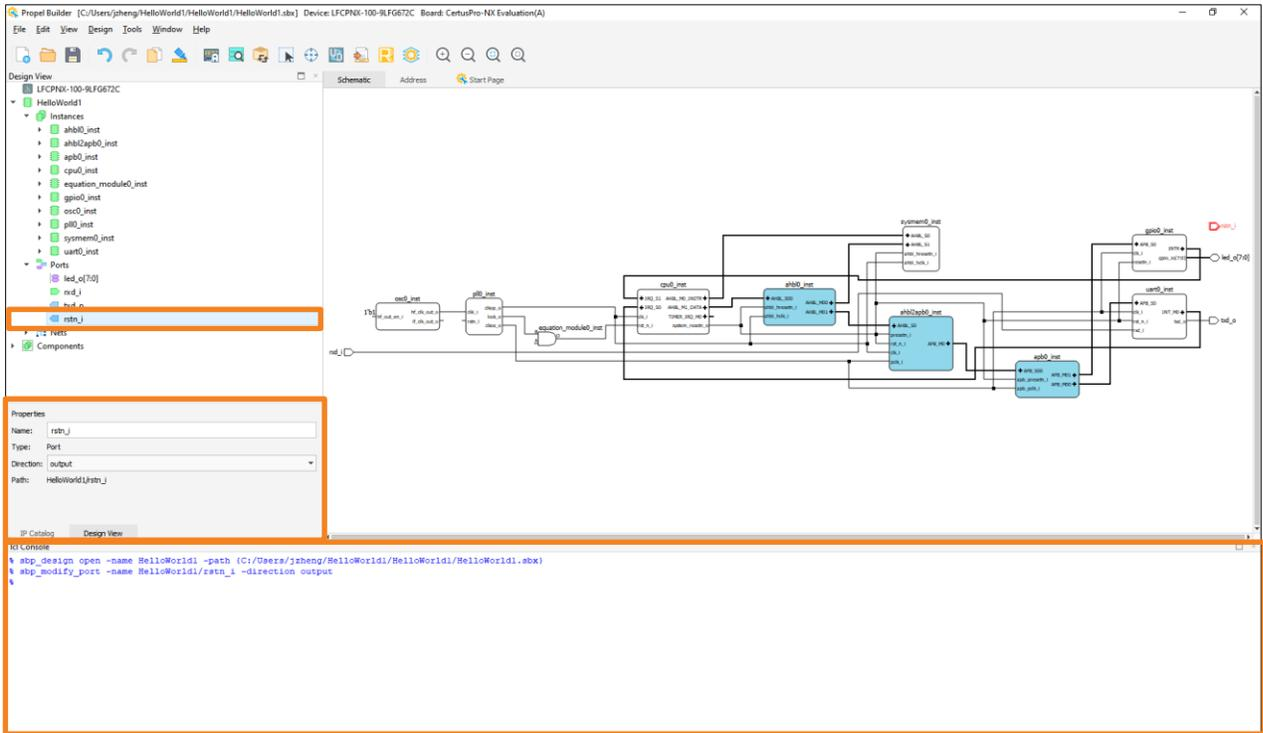

Figure 2.94. Port Direction
- b. Port direction can be modified. You can use the drop-down menu to choose the desired port direction. TCL command is shown in **Design View** (Figure 2.94).
- c. Port width can only be modified if it is already multi-bit. An error message is prompted out or shown in TCL Console, if the input value does not meet rules (Figure 2.94).